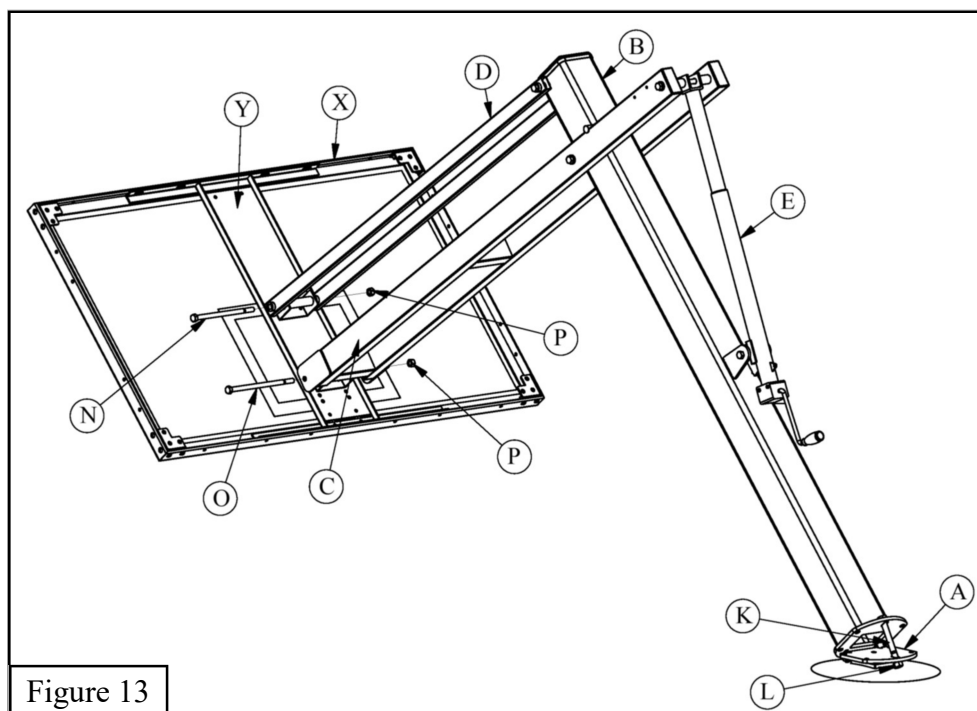

Figure 13
14. Lift the assembled *Backboard* (X) and *H-Frame* (Y) up and align it with the bolt holes in the *Lower Arm* (C). Using a 5/8" X 12" Hex Bolt (O) and 5/8" Lock Nut (P) attach the *Backboard* (X) to the *Lower Arm* (C). Tilt the *Backboard* (X) up and attach it to the *Upper Arms* (D) with a 5/8" X 11" Hex Bolt (N) and 5/8" Lock Nut (P). Tighten and then back off 1/2 turn. See Figure 13